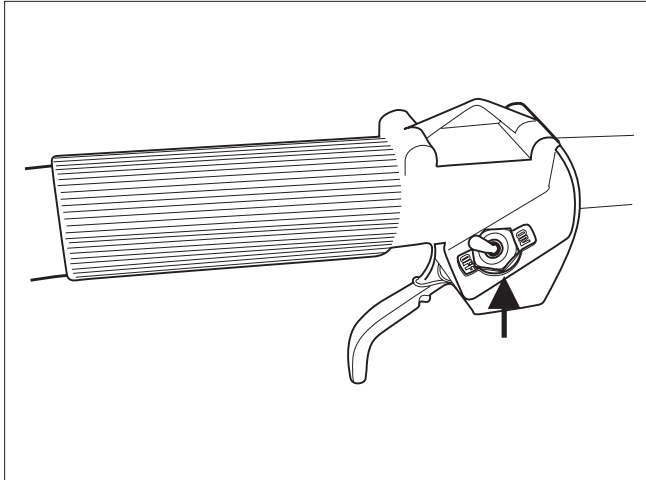

Figure 1-3. Typical Ignition Switch.
1. Make sure the switch is in the “START” or “ON” position (Figure 1-3).
Place the ignition switch in the “OFF” or “STOP” position (see Figure 1-3).